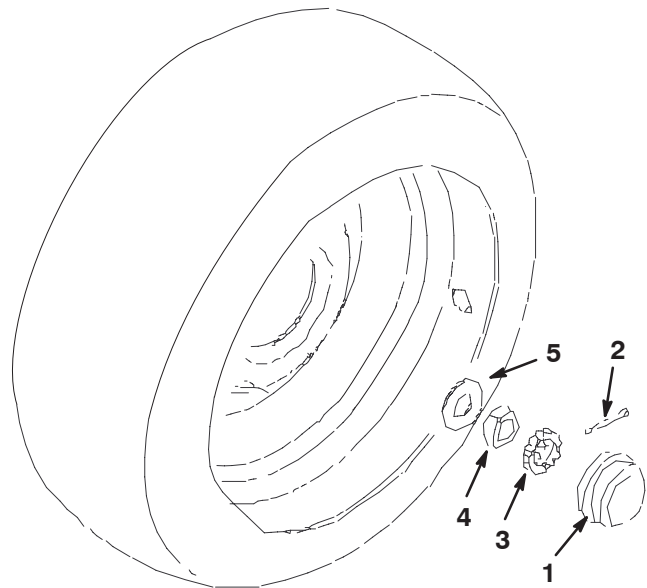

Figure 68
2. Remove dust cap from end of wheel spindle. Also remove cotter pin securing retainer (Fig. 68).
3. Tighten the jam nut (Fig. 68) to approximately 75–100 in-lbs using a hand wrench.